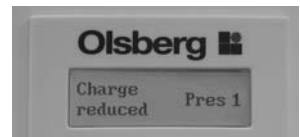

Fig.25
- You can select the menu item "Preselection, charge reduced programme" by pressing + (Fig.25), and you can then use the + or – button to select a programme (see Table 3, "Programmes, charge reduce preselection"). You can adapt these to individual user requirements using the menu item "OK = Change", described above.